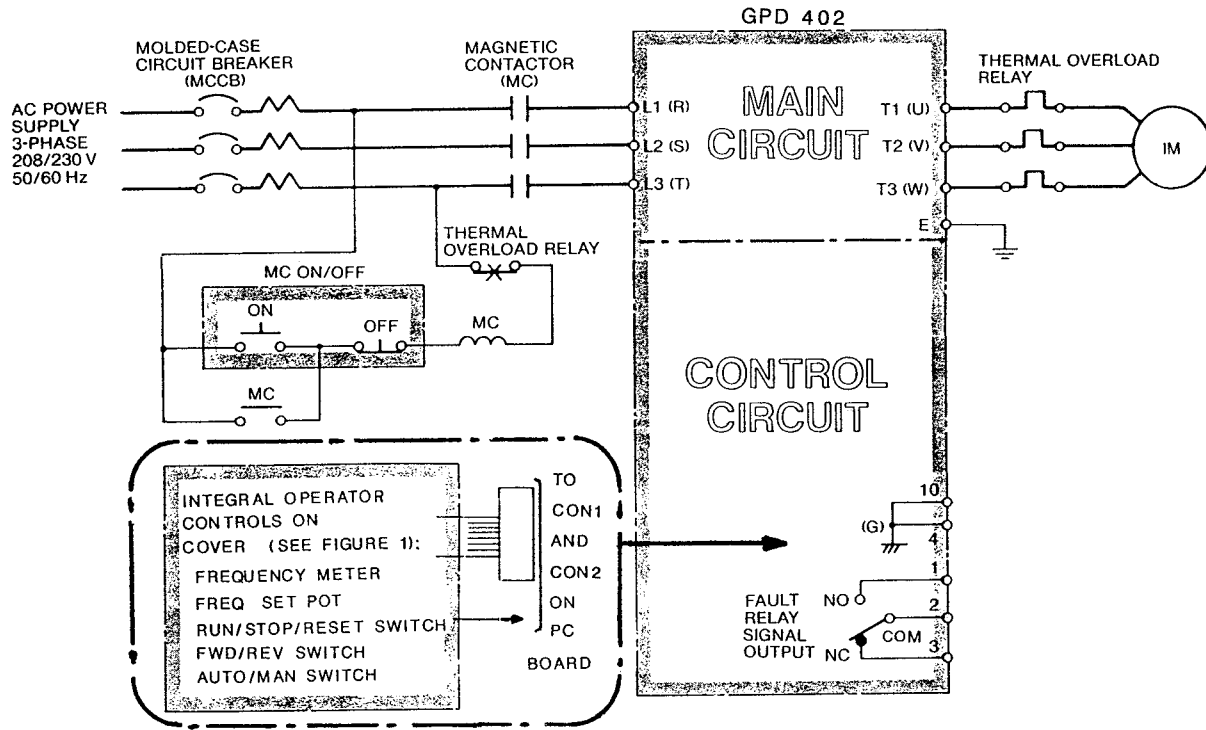
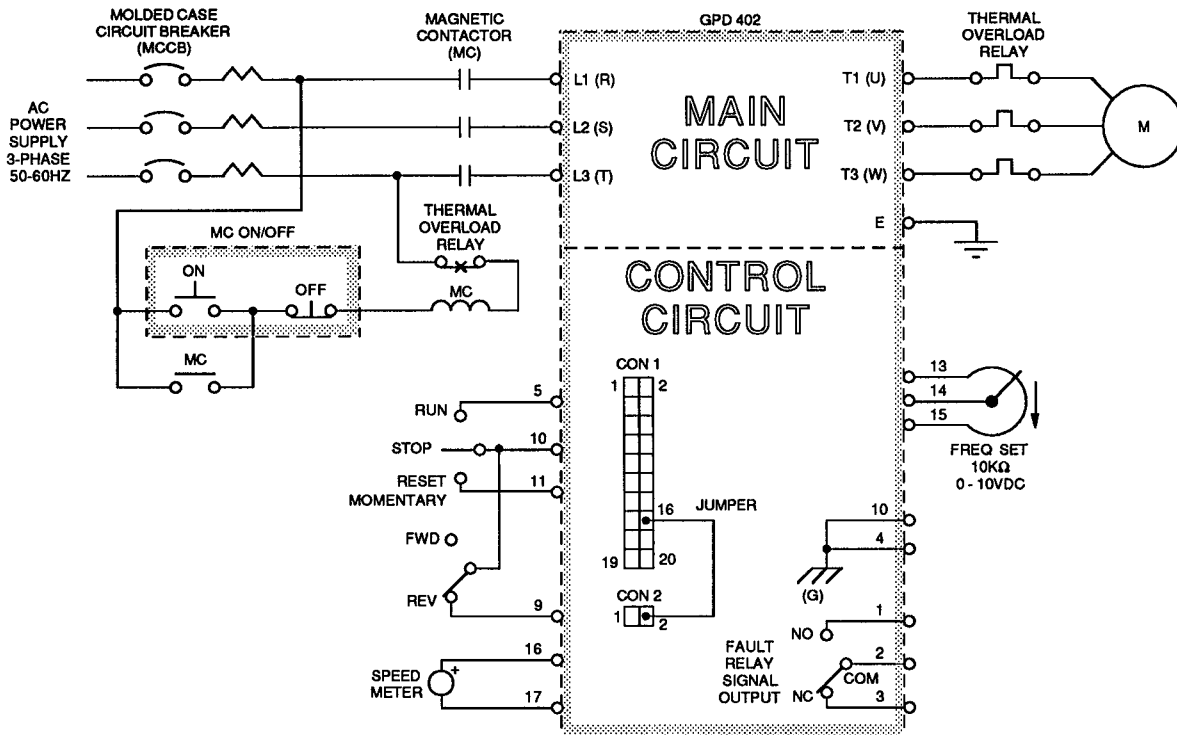

Figure 3. Basic Interconnections Using Local Operator Control
Figure 4. Basic Interconnections Using Remote Operator Control
Connections must be made according to either Figure 3 or Figure 4. Before wiring, remove terminal block cover, run the leads through the lead entrance at the unit bottom and connect them at the terminal blocks.
If operation will be controlled using only the operator devices mounted on the GPD 402 front cover, complete wire connections using Figure 3.
Complete all external wire connections using Figure 4. **DO NOT INSTALL** the JUMPER shown between CON 1(16) and CON 2(2).
If operation will be controlled using only operator devices mounted Remote from the GPD 402 and the integral control devices (front cover) have been physically removed, complete all wire connections using Figure 4.